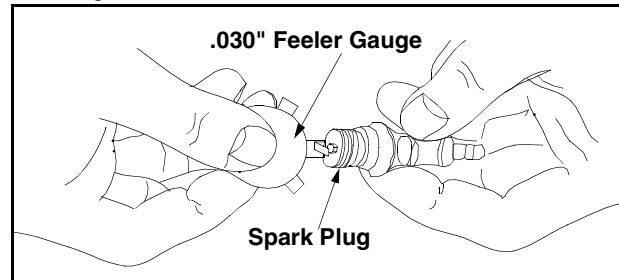

Figure 13
- Clean the spark plug and reset the gap to .030" at least once a season or every 50 hours of operation. See Figure 13. Spark plug replacement is recommended at the start of each season. Refer to engine parts list for correct spark plug type.